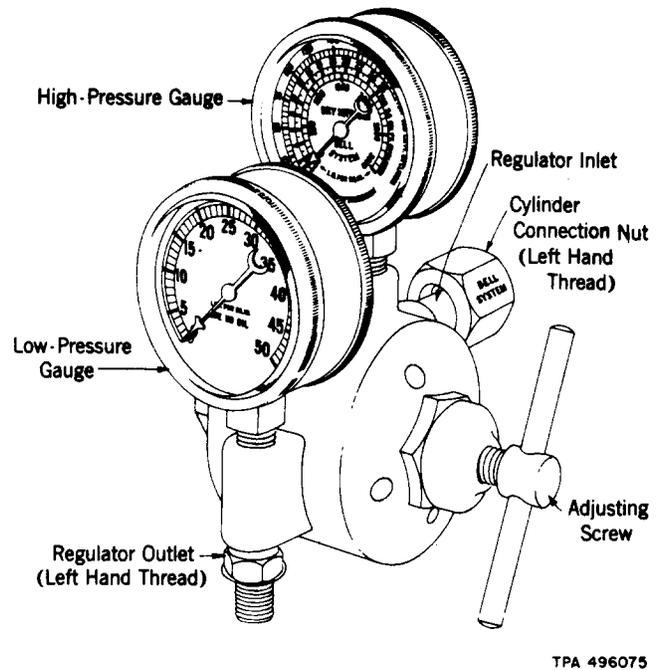

Fig. 3—C Pressure Testing Regulator
3.04 The C Pressure Testing Regulator is essentially the same as the B Pressure-Testing Regulator. However, instead of having a pressure-testing valve, it is equipped with a low-pressure gauge for indicating outlet pressure, as well as a high-pressure gauge. The regulator weighs approximately 6 pounds and has maximum over-all dimensions of 7 by 6-1/2 by 6-1/2 inches. It may be supplied in either of two basic designs, one of which is shown in Fig. 3.